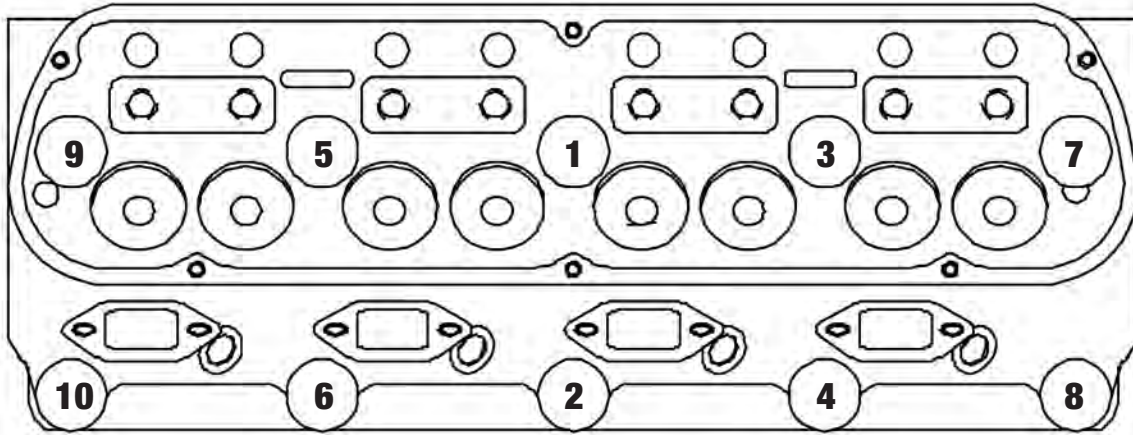

Figure 1 - Head Bolt Tightening Sequence
- Installation is the same as for original equipment cylinder heads. Consult service manual for specific procedures, if necessary. Head gasket recommendations are listed in the head gasket section. Be sure that the surface of the block and the surface of the head are thoroughly cleaned to remove any oily film before installation. Use alcohol or lacquer thinner on a lint-free rag to clean. Apply moly-oil mixture to head bolt threads, washer, and area under head bolt to prevent galling and improper torque readings. Torque to 70 ft./lbs. for 7/16" bolts (289/302) or 100 ft./lbs. for 1/2" bolts (351W) in three or four steps following the factory tightening sequence (see Figure 1), then tighten the long (upper) head bolts to 80 ft./lbs. (7/16") or 110 ft./lbs. (1/2"). A re-torque is recommended after initial start-up and cool-down (allow 2-3 hours for adequate cooling).